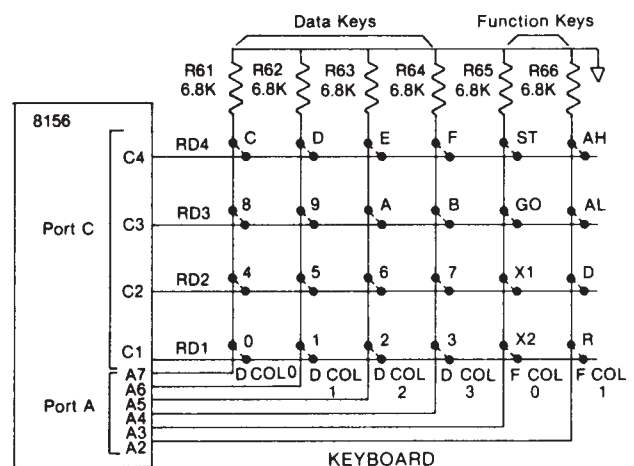
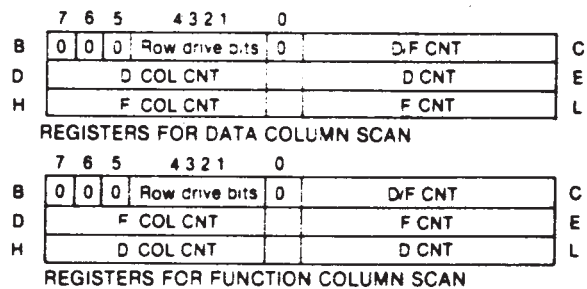

Figure 12-2
Figure 12-5
Program 3 adds the Scan (locations 00A2 to 00D3), Key Found (locations 00D4 to 00E1) and Data Found (locations 00E2 to 00F0) sections of the Monitor program to program 2. Figure 12-1 shows a flow chart of Program 3. The Display and Scan sections are linked by replacing the JMP instruction in Program 2 at locations 00A2 thru 00A4 with the first 3 bytes of the Scan routine. The added sections allow data to be entered into the Monitor program via the 16 data keys shown in figure 12-2. The 8 function keys are scanned but will not be processed in Program 3. They will be added in Program 4.
The scan routine checks each of the 16 data and 8 function keys shown in figure 12-2 to see if it is pressed. The RST, ALE, WR, RD and RS keys are not scanned. The 24 scanned keys are arranged differently on the printed circuit board but are shown in figure 12-2 as 4 rows and 6 columns to illustrate the matrix nature of the interconnection. When a key is pressed, a row line is connected to a column line. For example if data key 5 is pressed, Row Driver 2 (RD2) is connected to Data Column 1 (D COL1). As shown in figure 12-3, Port C is configured as an output port and drives the 4 Row Driver lines. Port A is configured as an input port and senses the 6 column lines. In the example above, when key 5 is pushed a high voltage on RD2 will be sensed as a 1 on D COL1. All other column lines will be 0.
Scanning is started by activating RD1. The column lines are then input to the A register through Port A. These column lines are then sensed sequentially from D COL0 thru F COL1 see figure 12-2. This Row Drive cycle is then repeated for RD2, RD3 and RD4. Refer to figure 12-4 for a flow chart of the scan routine. If a key is found to be pressed the program immediately exits the Scan routine and goes to the Key Found (KFND) routine. Figure 12-5 shows the 8085 register usage. The B register is used to store the current Row Drive bit. Initially bit 1 is set and then output to Port C to drive RD1. As each Row Drive cycle is complete the B register is shifted left one bit to obtain the next Row Drive bit. When the bit is shifted into bit 5 scanning is complete.
DATA COUNTER (D CNT): The D CNT generates the hexadecimal code of the data key pressed. It is initially set to 0 and incremented each time a Data Column is tested and the key is found to be open (D COL line at a low voltage). Whenever a column is tested, either Data or Function, and found to be at a low voltage, the E register is incremented. As shown in figure 12-5, when Data Columns are tested the D CNT is in the E register and the Function Counter (F CNT) is in the L register. When Function Columns are tested the positions are reversed. The F CNT is in the E register and the D CNT in the L register.
DATA COLUMN COUNTER (D COL CNT): The D COL CNT keeps track of the number of Data Columns tested during each Row Drive cycle. Whenever a column is tested, either Data or Function, and found to be at a low voltage (0), the D register is decremented. As shown in figure 12-5 the D COL CNT is always paired with the D CNT. It is in the D register when Data Columns are scanned and in the H register when Function Columns are scanned. The D COL CNT is set to 04 at the start of each Row Drive cycle. When it has been decremented to zero the Data Column scan is complete.
Figure 12-2 shows a simplified schematic of the 24 scanned keys added in lesson 12. Each key is at the intersection of a row and a column line. Pressing the key connects the row to the column line. Port C is configured as an output port. Placing a 1 in Port C, bits C1 thru C4 places a high voltage on the corresponding Row Drive line RD1 thru RD4. Only one Row Drive line is made high at a time. Port A is configured as an input port. The column line Data Column 0 (D COL0) thru Function Column 1 (F COL1), are input to Port A on lines A7 thru A2. The column lines are held to a low voltage (0) thru resistors R61 thru R66. A column line is driven to a high (1) voltage only when a switch connects it to an active (high) Row Drive line.